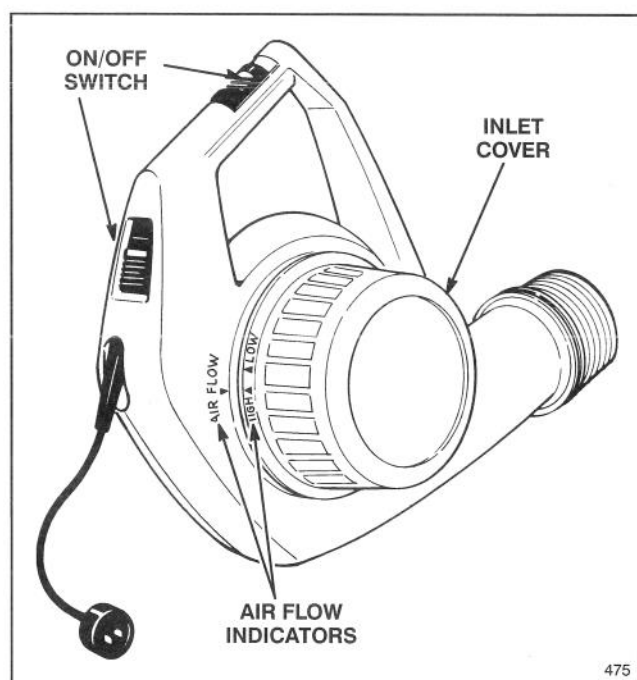

Figure 18
Your blower features a variable inlet cover (Fig. 18) which allows you to adjust the volume of airflow by rotating the inlet adjustment cover. Low and intermediate flow will allow you to easily direct debris from open doorways, screens, etc. Experience with the unit will indicate the amount of airflow necessary for each application.
2. Slide on/off switch to the "on" position (Fig. 18).